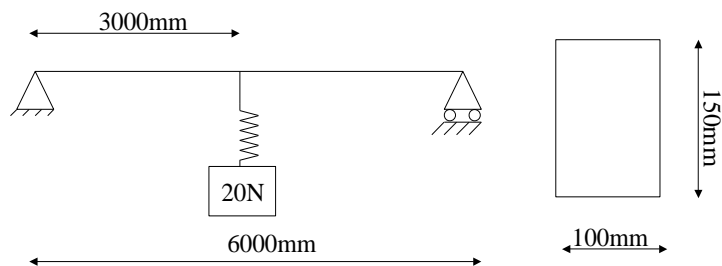

Fig 1
2. Calculate the natural frequency of the system shown in fig1. The mass of the beam is negligible in comparison to the suspended mass.  $E = 2 \times 10^5 \text{ N/mm}^2$ .